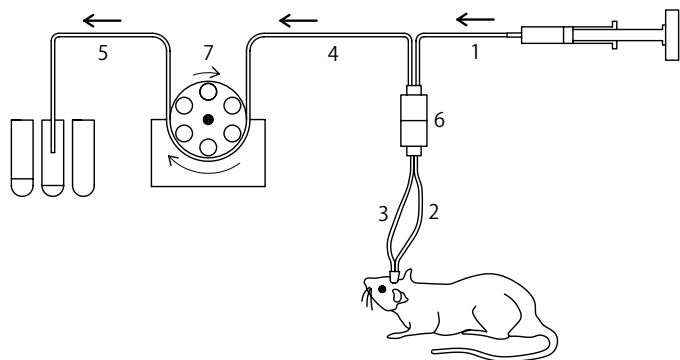
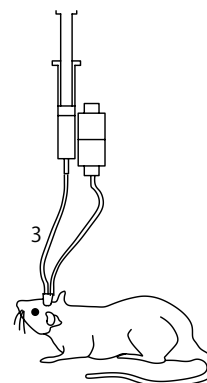

Fig. 3 - Tubing Diagram
Fig. 4 - Removing Clog
Connect all tubing as shown in Figure 3. Table 1 shows the model names of tubing, size, material and approximately internal volume of each tube shown in Fig. 3. The tubing between the probe and peristaltic pull pump has to be 0.25 mm ID to allow smooth withdrawal of the sample.
Both the syringe and peristaltic pumps should still be stopped and flow rate settings of the syringe pump is at 10 μ L/min and ERP-10 is showing "0200". Remove the bypass where the probe will be placed and connect the inlet and outlet. Start the syringe pump and start the peristaltic pump immediately after confirming a little leak from the vent holes. Pay attention there might be a lag time on the syringe pump caused by a mechanical play, see section 6. Confirm that an air segment no larger than approx. 5 cm (= 2 inch, 2.5 μ L) has entered the outlet tubing. (see #3, #4 or #5 on Fig. 3).
- Clogging mostly happens on the tubing #3 or outlet of the probe after the vent. if it happens. To fix, please disconnect the swivel and replace to a 1 mL syringe containing water at the tubing #3 out (see Fig. 3 and Fig 4). Then infuse water toward the probe via tubing #3. The flush will come out from the vent and you can use water.